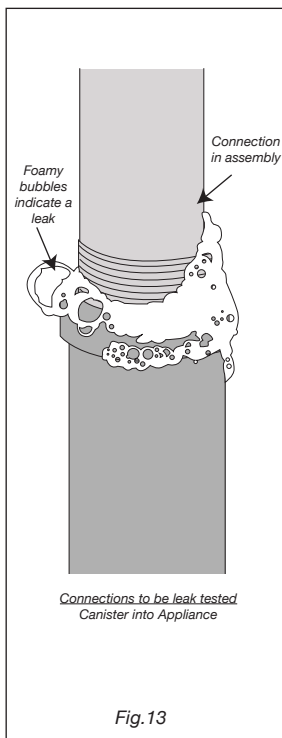

Fig.13
- A stream of bubbles forming indicates a gas leak. (See Fig.13)